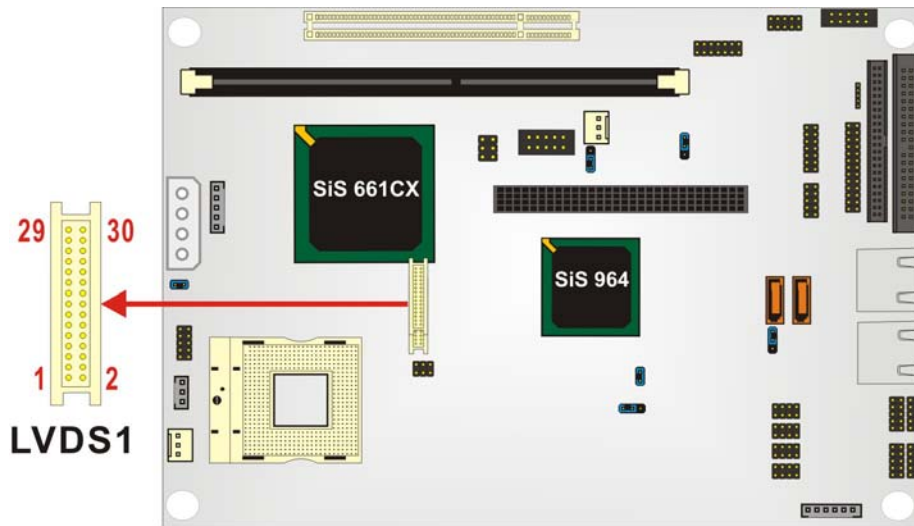

Figure 3-13: LCD LVDS Connector Pinout Locations
- CN Location:** See Figure 3-13